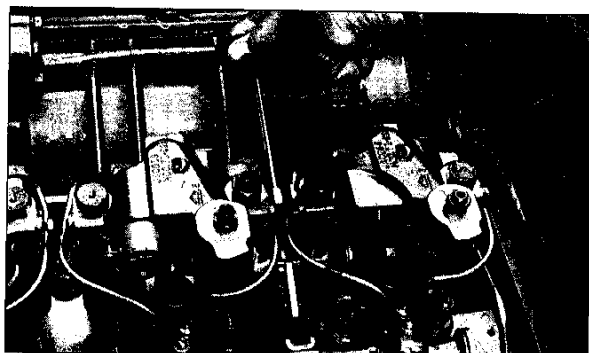

FIG. 1.6.15
4. Hold the oil connector in this position and carefully lock the lock nut. Use two short open end wrenches (Fig. 1.6.15). Remember, too much torque on these connectors will cause them to crack.